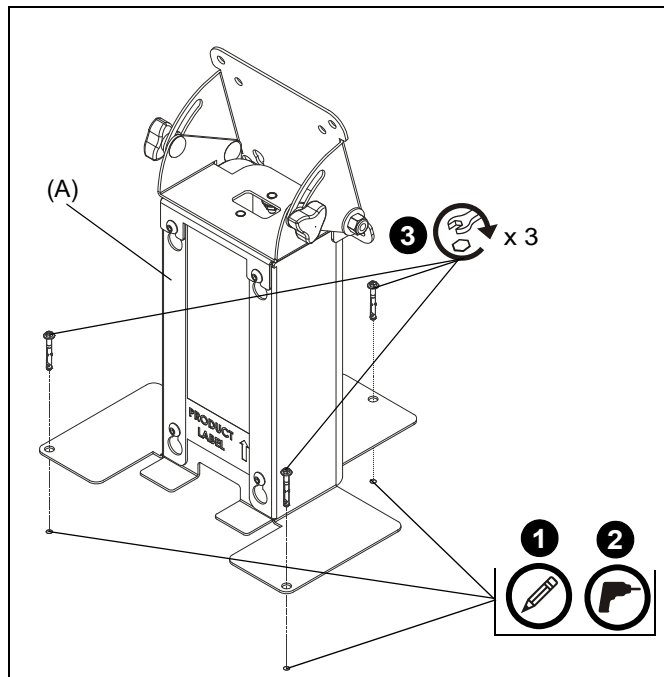

Figure 6
2. Drill holes at marked locations according to instructions of hardware being used for installation. (See Figure 6)
3. Use hardware (not included) to secure base of column (A) to floor. (See Figure 6)